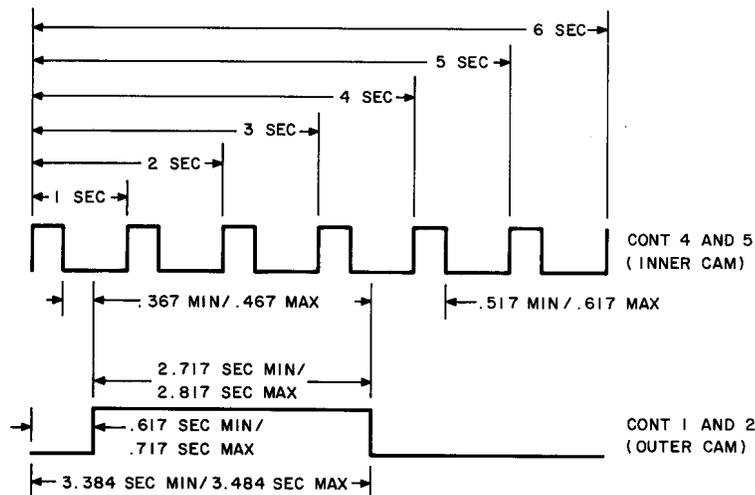

Fig. 6—4B Timer (Mfr. Disc.)—One Cycle
(1) The timing interval and cam overlap measurements for the 4B timer (Mfr Disc.) can best be made with a strip chart recorder. A recorder with at least two pens is needed. It should have sufficient chart speed to give the required precision. The output of the timer, as recorded, can be compared to the times shown in Fig. 6.